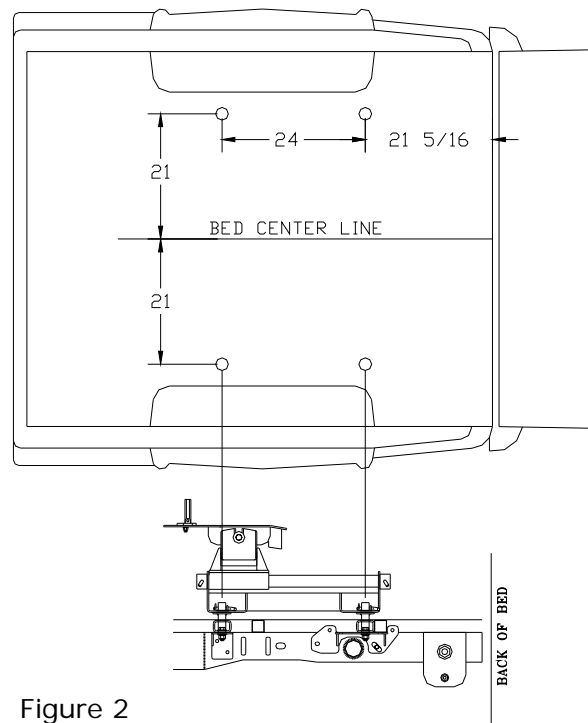

Figure 2
1. Measure and mark, using a square at the back of the bed, forward **21-5/16"**. Do this at any point on both sides of the bed. See Figure 2 on page 12 for example.